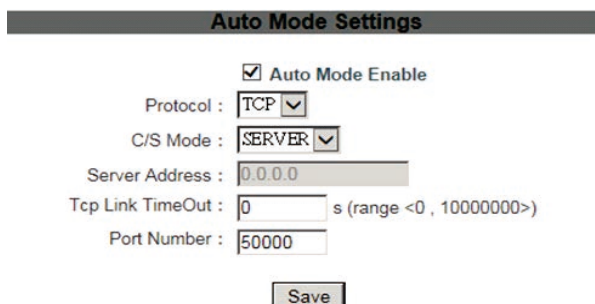

Figure 26
5. In "Auto Mode Settings" column, mark a check (default) before the "Auto Mode Enable", "Protocol" is communication protocol, choose "TCP" (default) or "UDP" to communicate; "C/S Mode" is working mode, choose "SERVER" (when you in SERVER mode) or "CLIENT" mode; "Tcp Link TimeOut" is equipment standby time disconnection, the "port number" can be set up by your preference (like 50000), click "Save" button to save the setting(Figure 26).